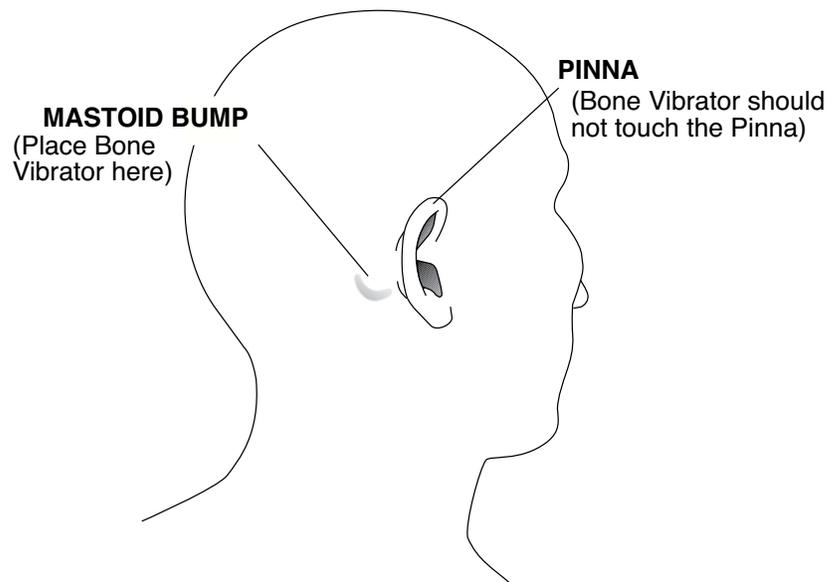

Figure 6.3.2: For Bone Conduction Testing
- a. Place the bone vibrator behind the ear on the mastoid bump (as Figure 6.3.2 shows). Place the other (padded) end of the head band above the ear on the opposite side of the head, to hold the vibrator comfortably yet securely against the head. Pressure is needed to help the bone vibrator stimulate skull vibrations.